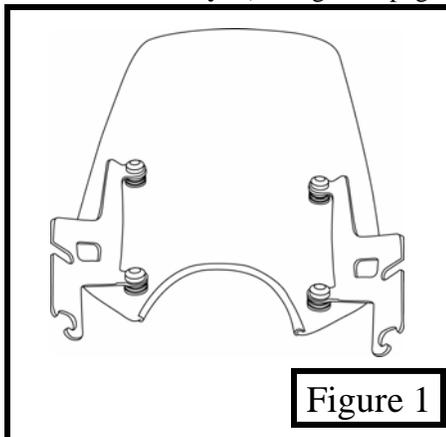

Figure 1
2. Install the windshield mounting plates onto the windshield, using the bolts that are pre-assembled on the mounting plates. The Santoprene grommets should be inserted through the holes in the windshield so that the flat round part of the grommet lies flat on each side of the plastic. The tabs point in towards the headlight when installed correctly. (see figure 1 and 2)